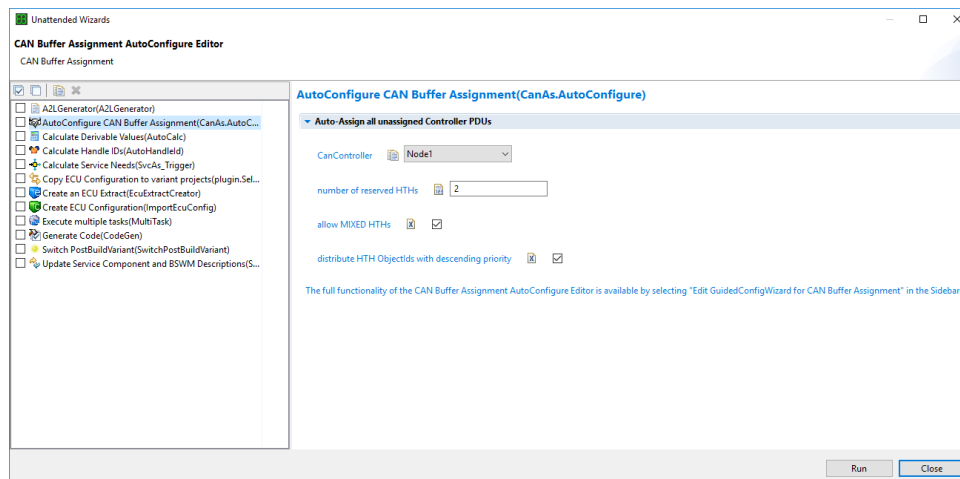

Figure 4.12. Configuring the unattended wizard for the automatic CAN buffer assignment
3. Configure the parameters in the window that appears, see Figure 4.12, "Configuring the unattended wizard for the automatic CAN buffer assignment". Section 4.3.2.2.4, "The CAN Buffer Assignment Editor GUI" provides a description of the parameters.